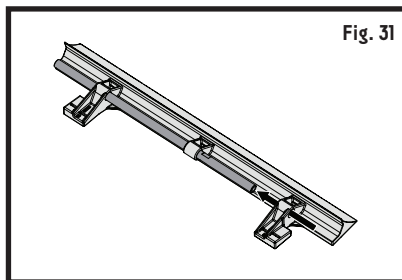

Fig. 31
5. Remove pivot rod from scraper blade and discard blade (Fig. 31).